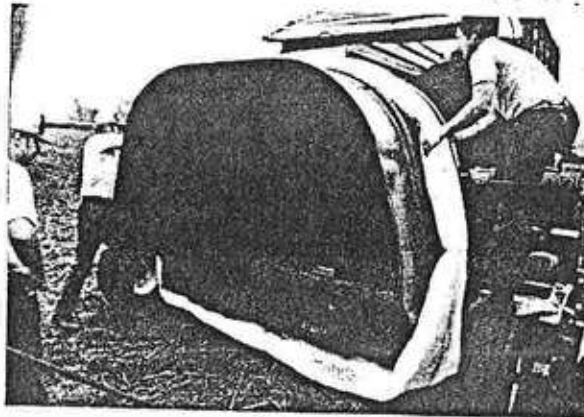

FIGURE 19
- E. Mount the Silobag directly onto the Silopress tunnel. Slide Silobag forward to front of tunnel. If positioned properly the leading edge should point toward the backstop and lettering on the printed insignia will be on the outside, right side up, slightly below eye level. Figure 19